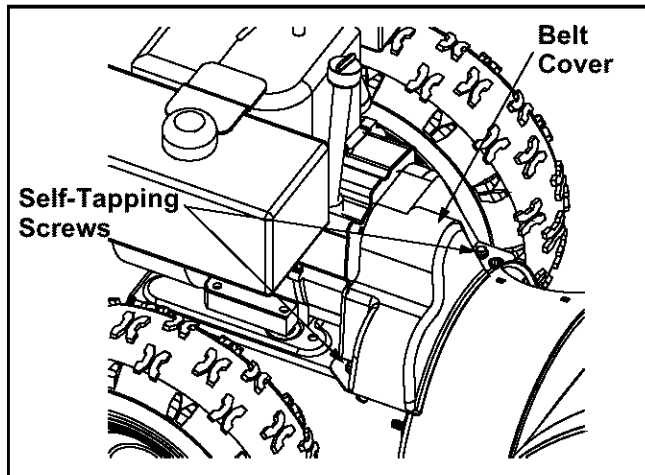

Figure 22
- Remove the plastic belt cover on the front of the engine by removing the two self-tapping screws. See Figure 22.